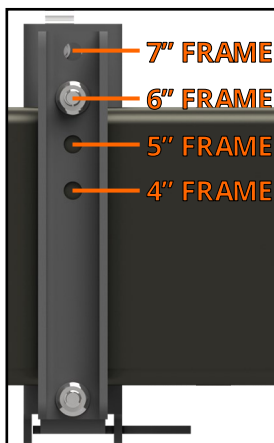
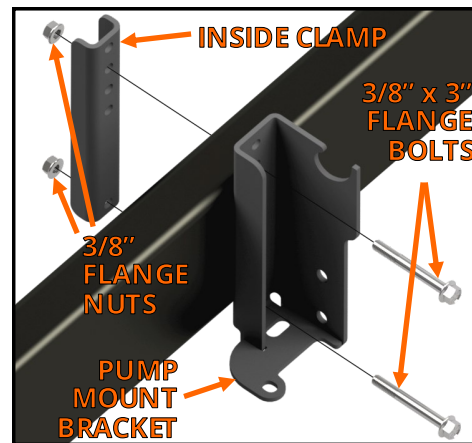

FIGURE C3: View of the inside clamp.
FIGURE C4: View of driver side frame rail.
2. **Attach the pump mount bracket.** Locate the pump mount bracket, inside clamp, two 3/8" x 3" bolts, and two 3/8" flange nuts. Depending on the height of your trailer frame, identify which hole to use for mounting the pump mount brackets, **see Figure C3**. Place the pump mount bracket and inside bracket next to the driver side frame and attach using the 3/8" bolts and nuts, **as shown in Figure C4**. Leave the nuts loose.